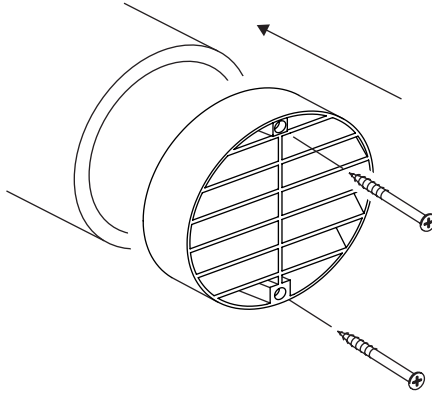

Figure 6.5. Grid placement
6. Install the Tion outflow air grid (hereinafter referred to as the grid) on the tube. Fasten the grid on the tube using self-tapping screws (Figure 6.5).